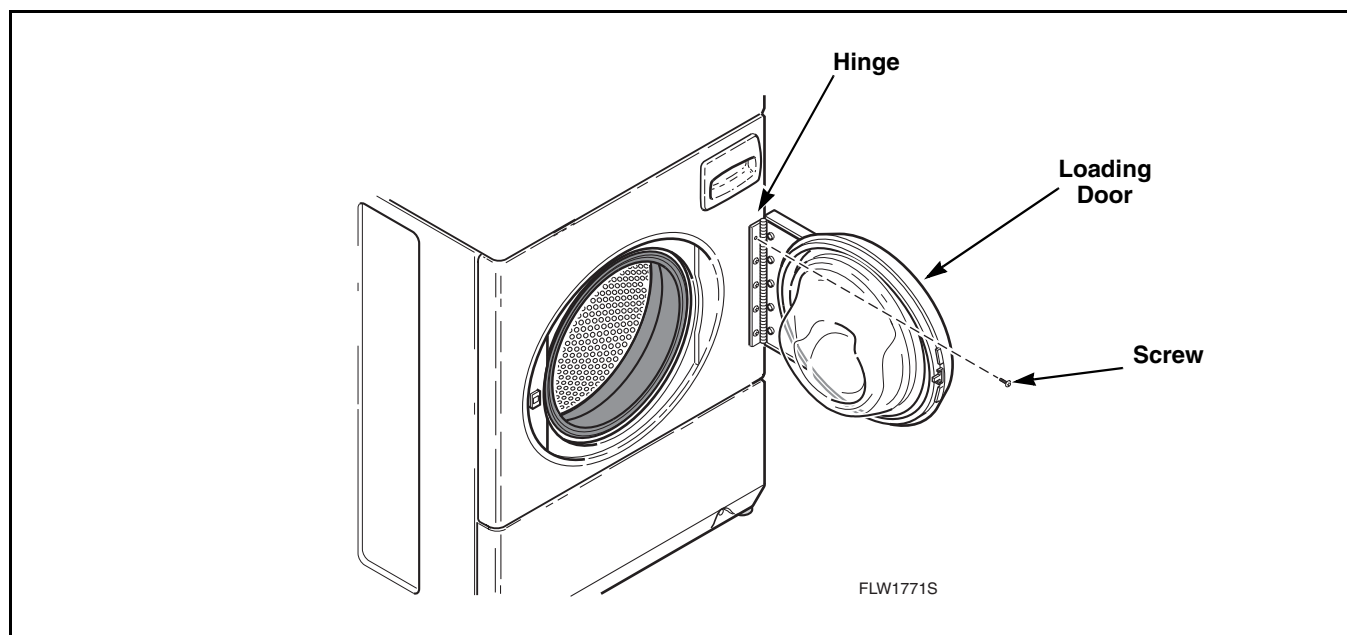

Figure 14
- b. The loading door can be adjusted up or down somewhat by loosening screws holding door hinge to front panel, then raising or lowering door before retightening screws. Refer to *Figure 14*.